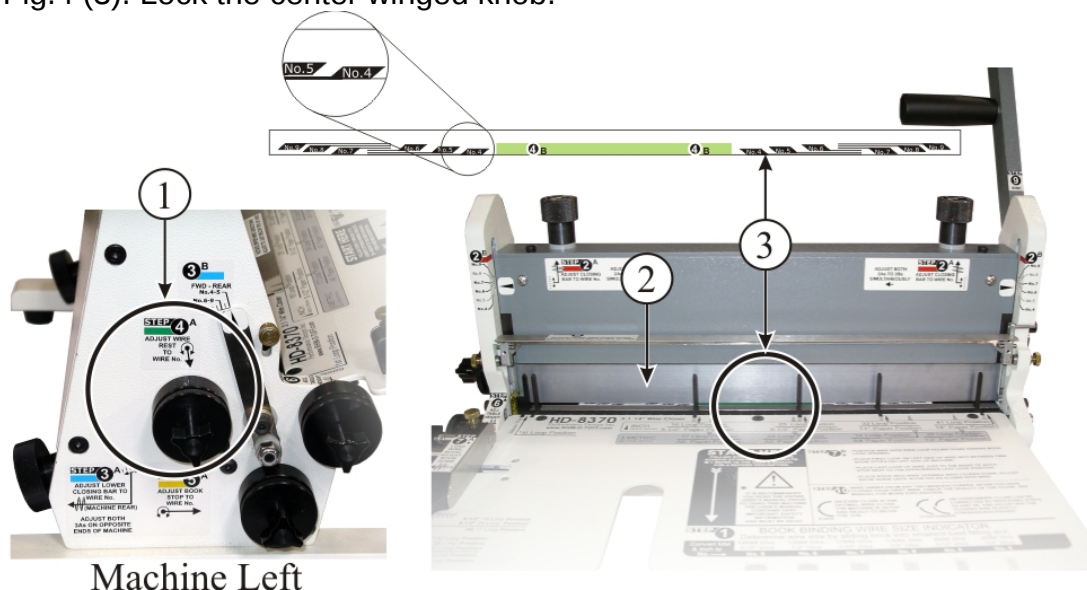

Fig. 4
**STEP 4 GREEN, Adjust Wire Rest:** See Figure 4.
Locate Step 4 decal only on the left side of the machine (1). Adjust the Step 4 Knob by unlocking the center winged knob then turn the outside dial so that the Wire Rest (2) aligns with the appropriate Wire Number on decal 4B shown in Fig.4 (3). Lock the center winged knob.